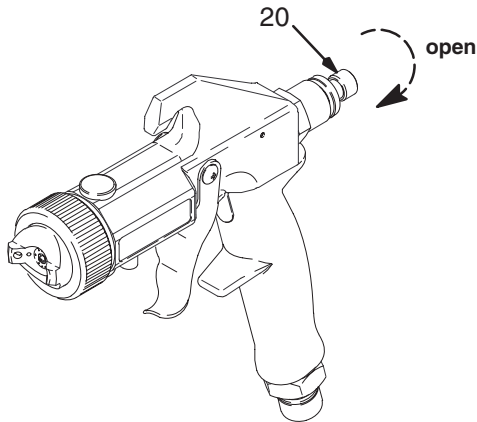

Fig. 6 05292
1. Turn fluid adjustment knob (20) counterclockwise until you cannot feel any restriction of trigger movement. See Fig. 6.